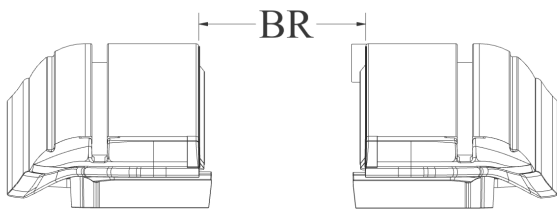
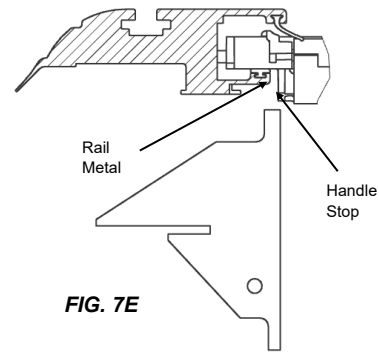

FIG. 7C
FIG. 7E
Now tighten your clamp turn knobs hand tight. Finally, check for proper spacing by measuring between the rails by attempting to insert the BR Gauge in between the rail metal and the handle stop (Fig 7E). You can also check the between the rail measurement at the canister and the tailgate end of the rails. The measurements should be equal to or less than those in Figure 7C. The Clamp Extensions have been pre-installed with brackets and shims to achieve the proper Between the Rail dimension (BR) when placed on an average factory truck bed. However, not all truck beds are average dimensionally and some have optional plastic caps or over the rail spray-in liners.